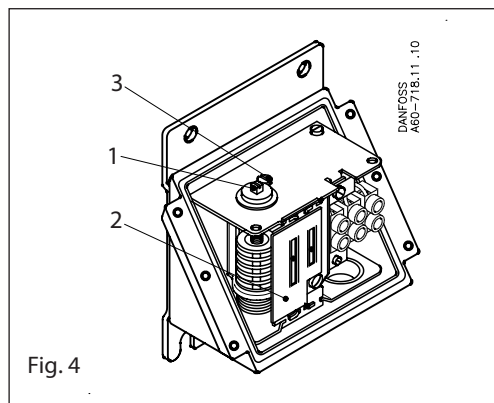

Fig. 4
When the pressure control cover is removed, and the locking screw (3) is loosened, the range can be set with the spindle (1) while at the same time the scale (2) is being read (fig. 4).